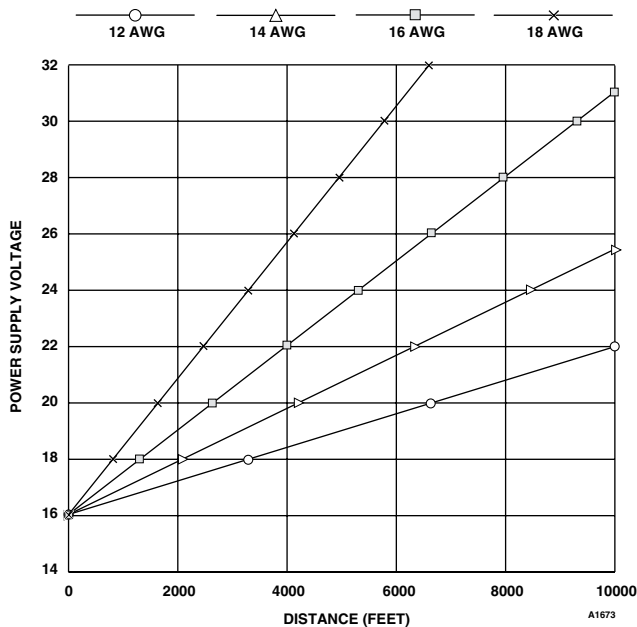

Figure 2—Transmitter Wiring Requirements for Toxic and Oxygen Models with Relays
- See Figures 2 and 3 for wiring size and maximum distance from the power supply to the transmitter.
- Figure 2 — Transmitter Wiring Requirements for Toxic and Oxygen Models with Relays